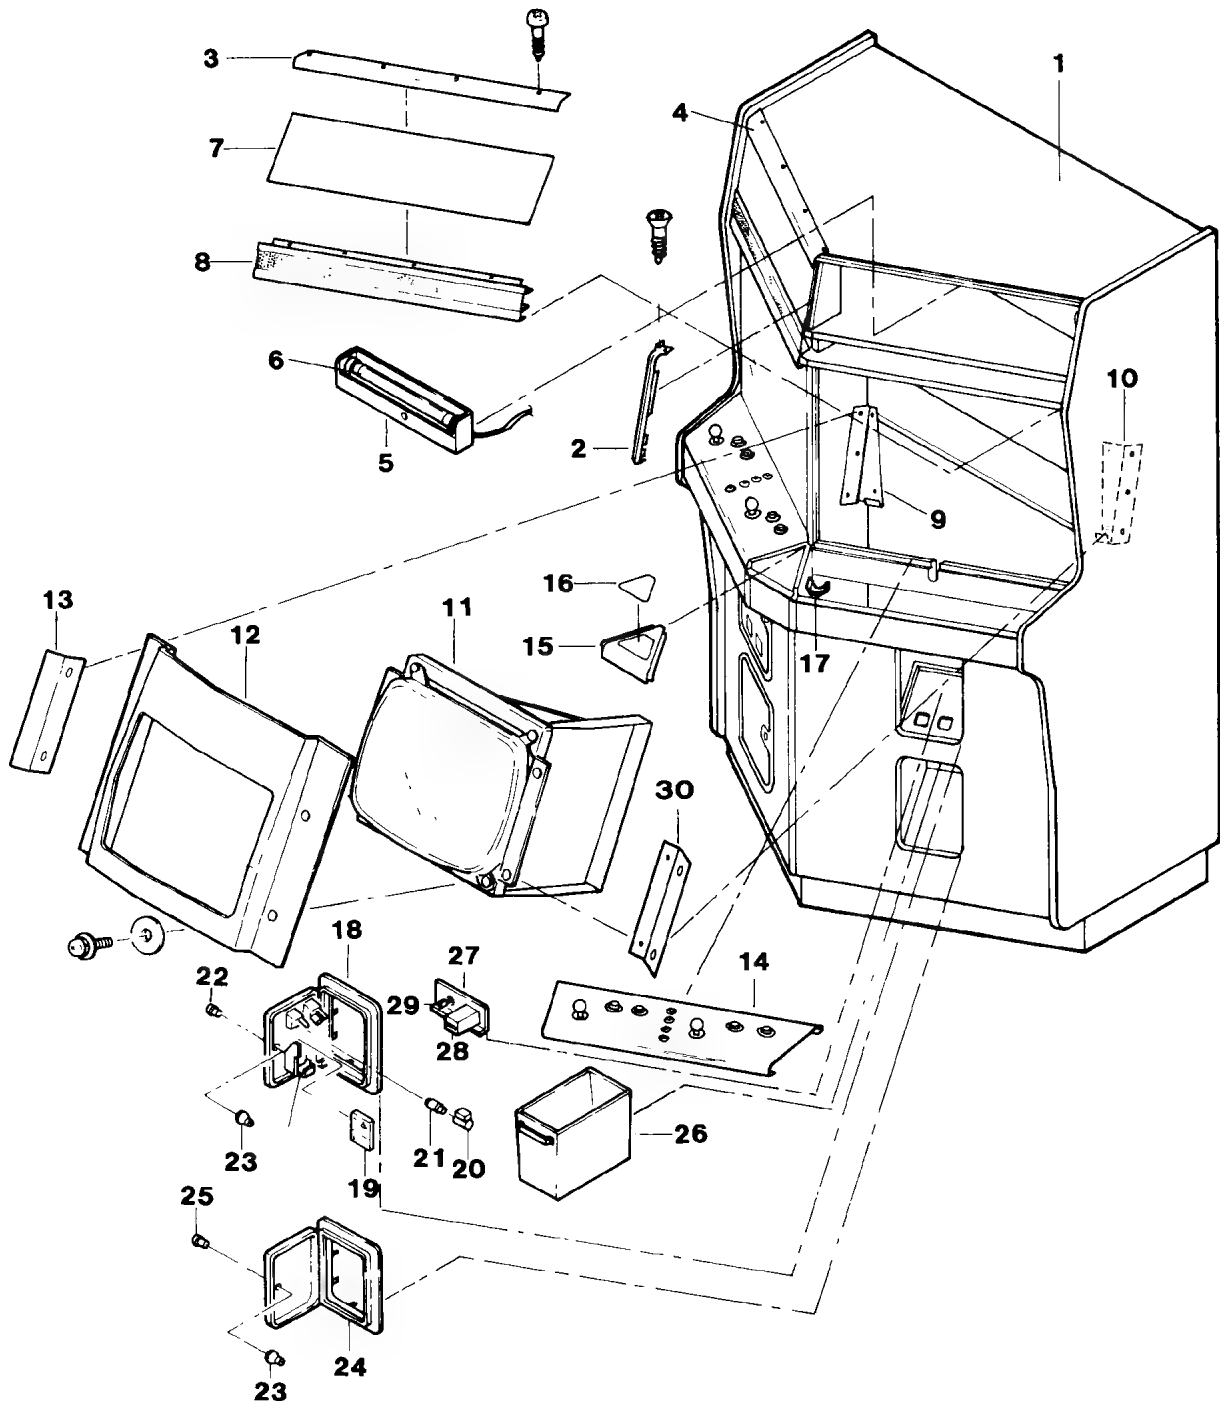

Fig. 9
A. Body Parts — See Figure 9
A. Body Parts, continued — See Figure 9